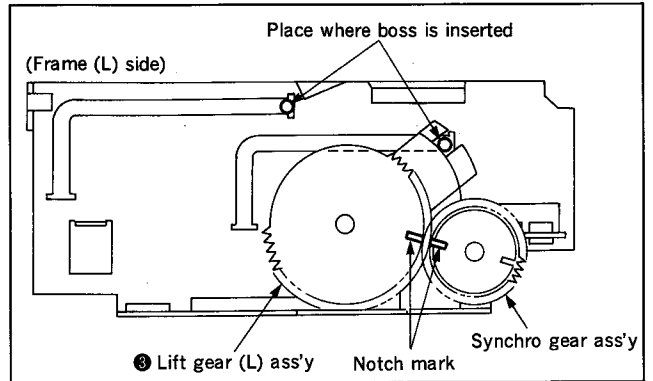

Fig. 3-4
- When installing the synchro gear ass'y and the lift gear (L) ass'y ❸, align register marks and have teeth engaged. (Fig. 3-4)